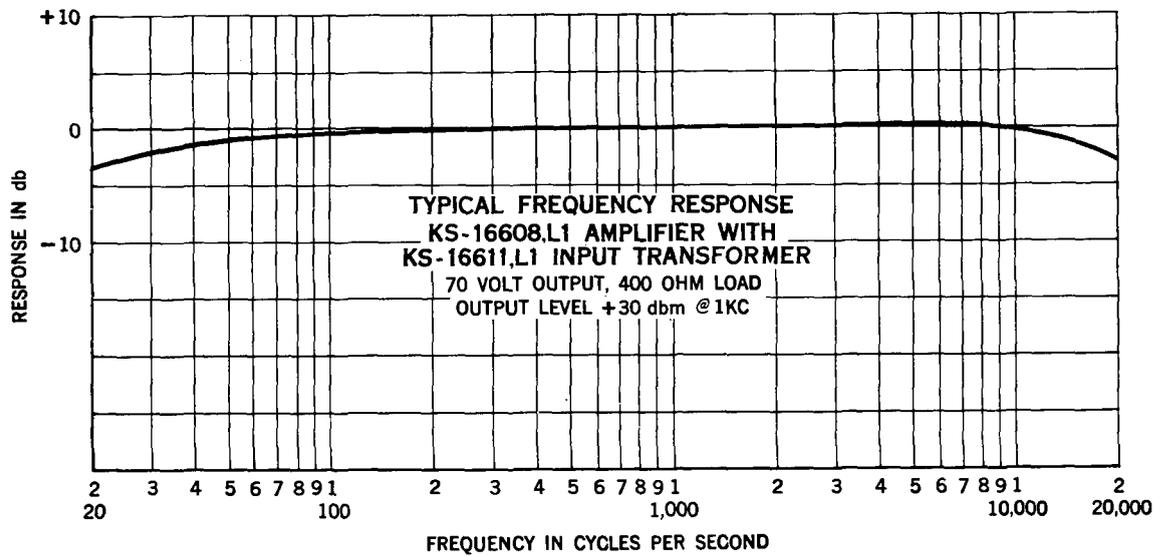

Fig. 7 - Frequency Response with Transformer Input
6.04 Fig. 7 shows the frequency response of the KS-16608, L1 Amplifier when it is equipped with a KS-16611, L1 Transformer. In most situations, the amplifier will be used with a transformer input.